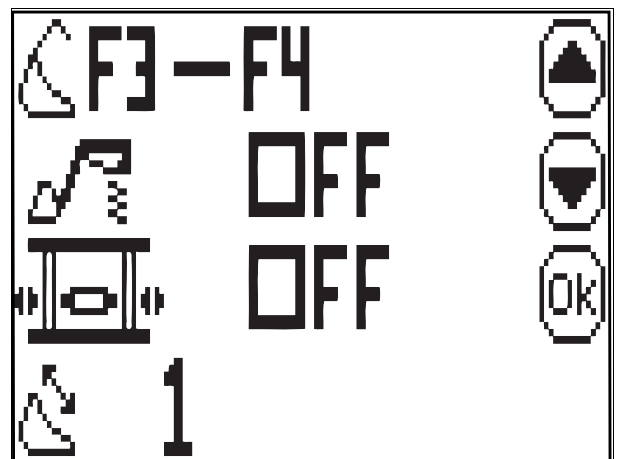

Fig. 11.
1. Go to the corresponding TMC Dash Display screen fig. 11